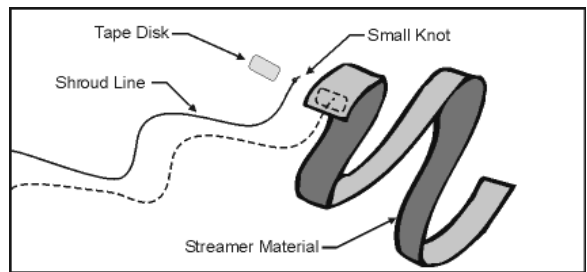

Figure 19
20. Referring to **Figure 19**, attach the **Shroud Line** to the **Streamer** by tying a small knot in the end of the Shroud Line and securing it to the end of the Streamer with a **Tape Disk** or a square of **Masking Tape**. Firmly press the tape into place. Tie the free end of the Shroud Line to the Shock Cord, near the Nose Cone.